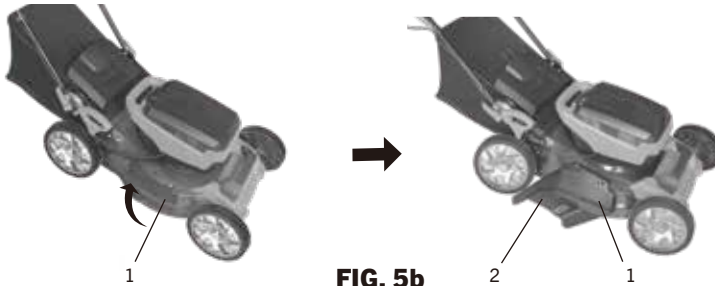

FIG. 5b
- To use the side chute option, remove the grass catcher (bag) and insert the mulching plate. a) Lift the side chute discharge cover (1) with one hand and hook in the side discharge chute (2) with the other hand (Fig. 5b). b) Release the side discharge cover to secure the chute in position.